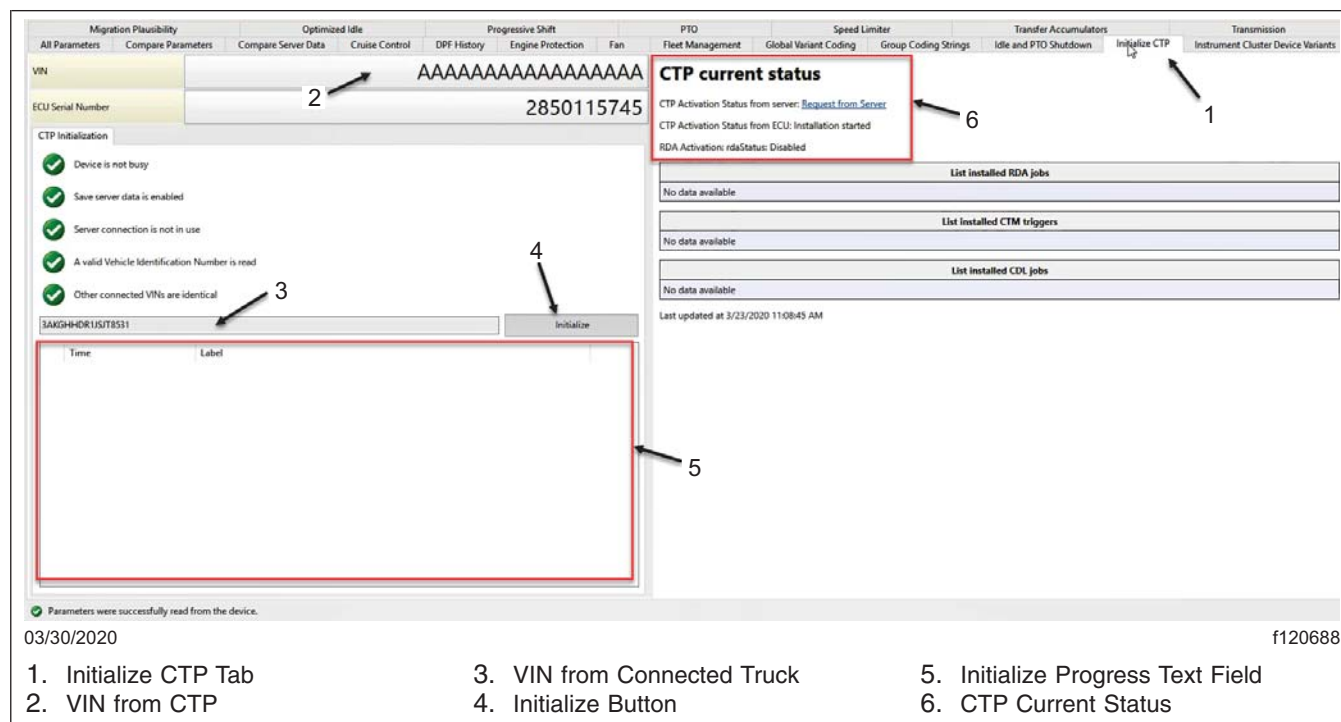

Fig. 3, Initialize Truck Data Center Panel
9. Navigate to "Parameters", allow the parameters to be read, then select the "Initialize CTP" tab. See Fig. 3.